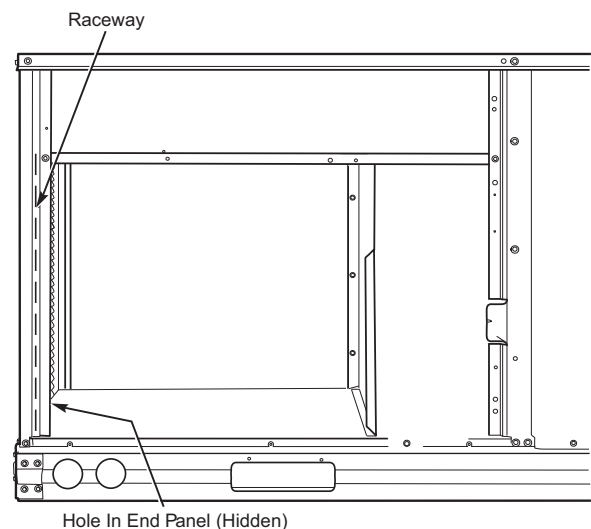

Fig. 36 — Field Control Wiring Raceway
The 48GE unit requires an external temperature control device. This device can be a thermostat (field-supplied) or a SystemVu™ controller (available as factory-installed option, for use on a Carrier Comfort Network® or as a stand-alone control). All field added wire must comply with UL and local NEC standards. See “Unit Without Thru-Base Connection Kit” on page 24 and use routing path shown in Fig. 36 to help with compliance as needed.
Pass the thermostat control wires through the hole provided in the corner post; then feed the wires through the raceway built into the corner post to the control box. Pull the wires over to the terminal strip on the upper left corner of the Unit Control Board or on the bottom left corner of the Main Base Board (MBB) on units with SystemVu. See Fig. 36.
2. Feed wires through the raceway built into the corner post (see Fig. 36) to the 24 v barrier located on the left side of the control box. The raceway provides the UL-required clearance between high-voltage and low-voltage wiring.